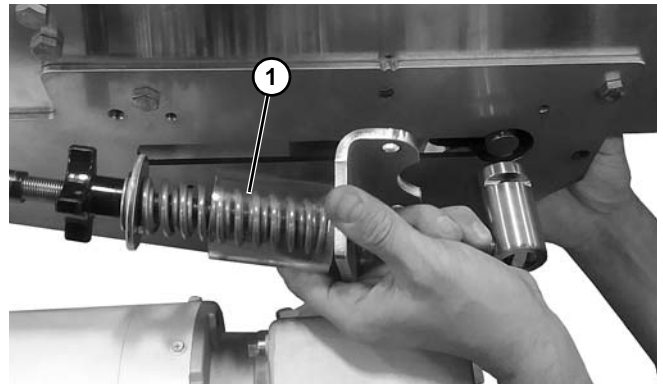

Figure 102
8. Remove tension assembly (**Figure 102, item 1**) on both sides of the center drive.